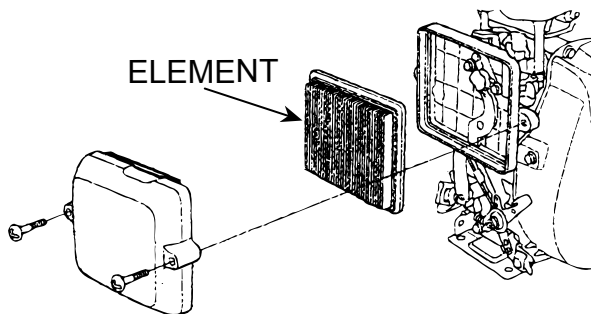

Figure 17. Air Cleaner (Engine)
- Remove the element from the air cleaner - engine (Figure 17) and wash it with gasoline or kerosene. Reinstall the element.